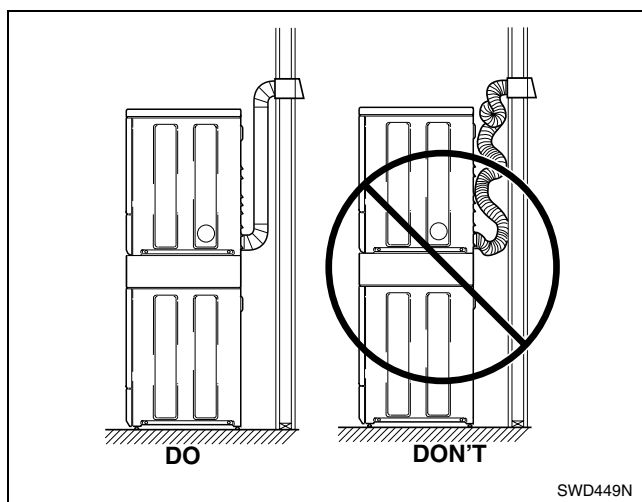

Figure 18
- DO NOT use plastic or thin foil ducting. Rigid metal duct is recommended. Refer to *Figure 18*.